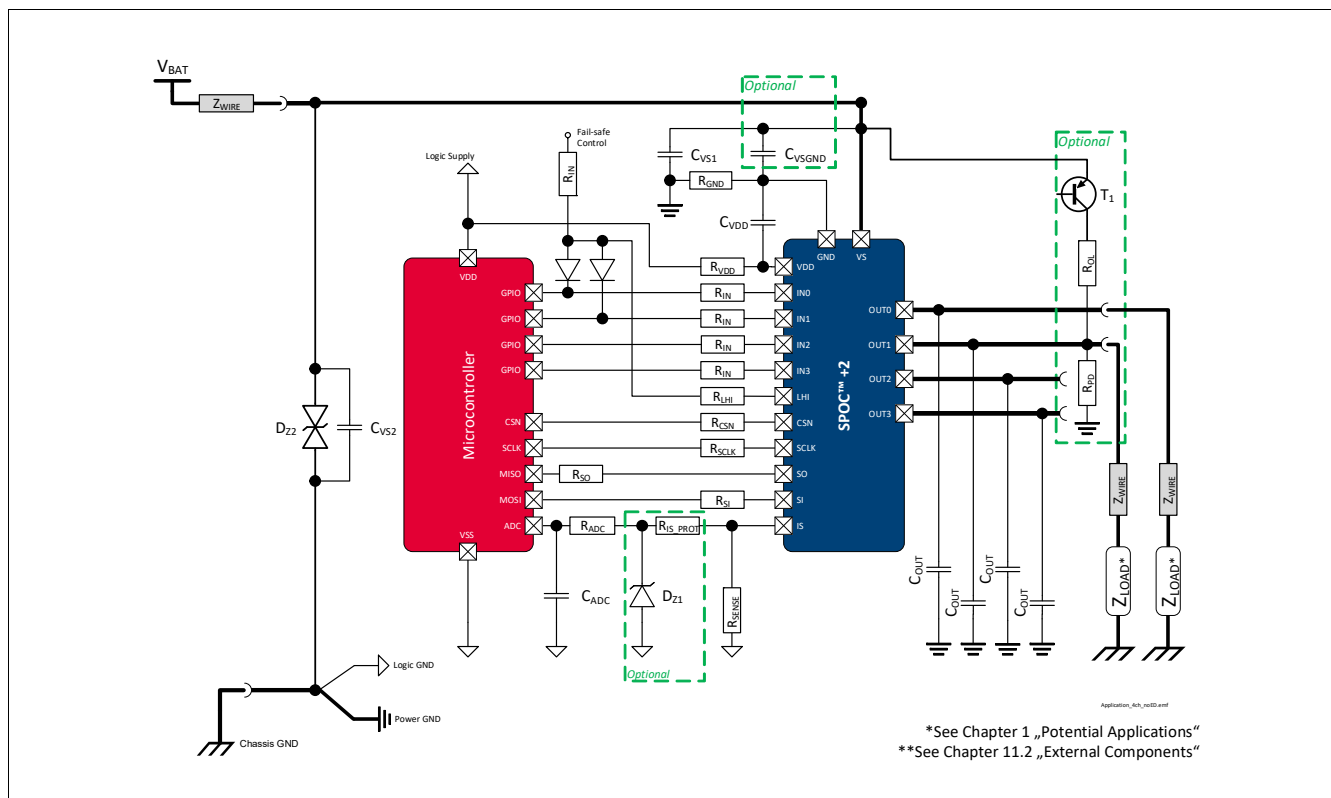

Figure 46 Application Diagram
1.10 , 2021-03-23	<p>General: Datasheet quality improved</p> <p>General: updated (ReverSave™ → ReverseON)</p> <p>General: updated (channel description)</p> <p>Icon “PRO-SIL™ ISO 26262-ready” added to front page</p> <p>Chapter 1 updated (Potential Applications updated and Product Validation added)</p> <p>Harmonization of Application Diagram (Figure 1, Figure 46)</p> <p>P_4.4.0.17, P_4.4.0.18 updated (Typ. value and Max. value)</p> <p>P_6.4.0.10 updated (Note or Test Condition)</p> <p>P_6.4.1.5 updated (Note or Test Condition)</p> <p>P_6.4.1.7 removed</p> <p>P_6.5.32.2 added</p> <p>P_9.6.0.6 updated parameter name</p> <p>P_9.6.0.17 added</p> <p>Figure 28 and Figure 29 updated</p> <p>Figure 33 updated</p> <p>Figure 37 and Figure 38 updated</p> <p>Chapter 10.4 typical value for VDD harmonized</p> <p>Chapter 11 updated (figures and descriptions)</p>